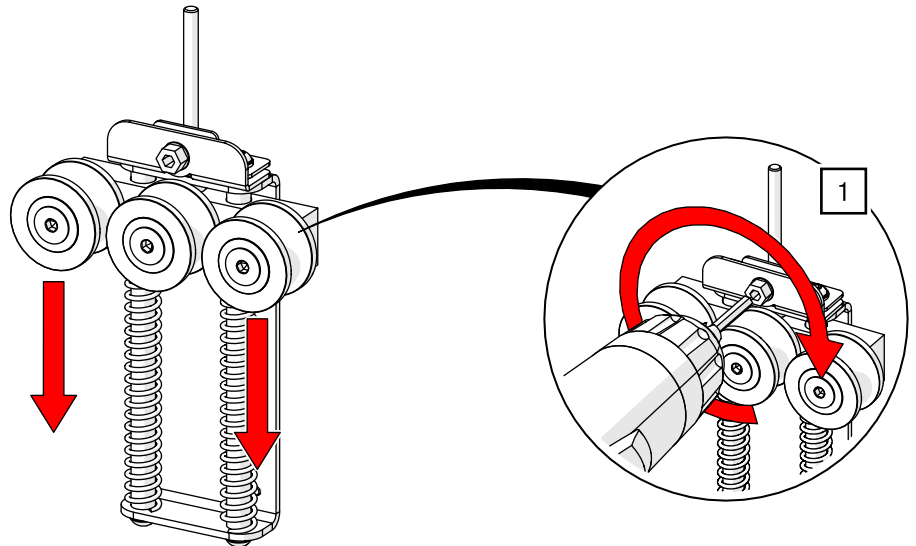

Fig. 126: Lower the cord guides
1. Adjust the tensioning unit of the manual drive to its lowest position against the spring pressure. To do this, carefully turn the threaded rod located in the centre above the cord guides using an Allen key AF 5 (low torque with a cordless screwdriver) (see Fig. 126).
6. Carefully loosen the threaded rod with an Allen key AF 5 (low torque with a cordless screwdriver) until it can be revolved loosely (reverse to step 1; see also Fig. 126).